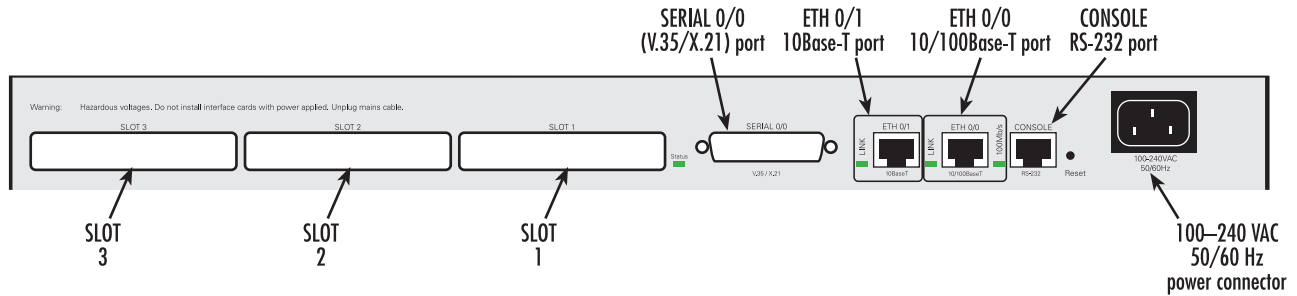

Figure 55. SmartNode 2300 connectors
1. Installing the 10Base-T Ethernet cable into port *ETH 0/1* or 10/100Base-T Ethernet cable into port *ETH 0/0* (see figure 55) (see “Installing the Ethernet cables” on page 91)